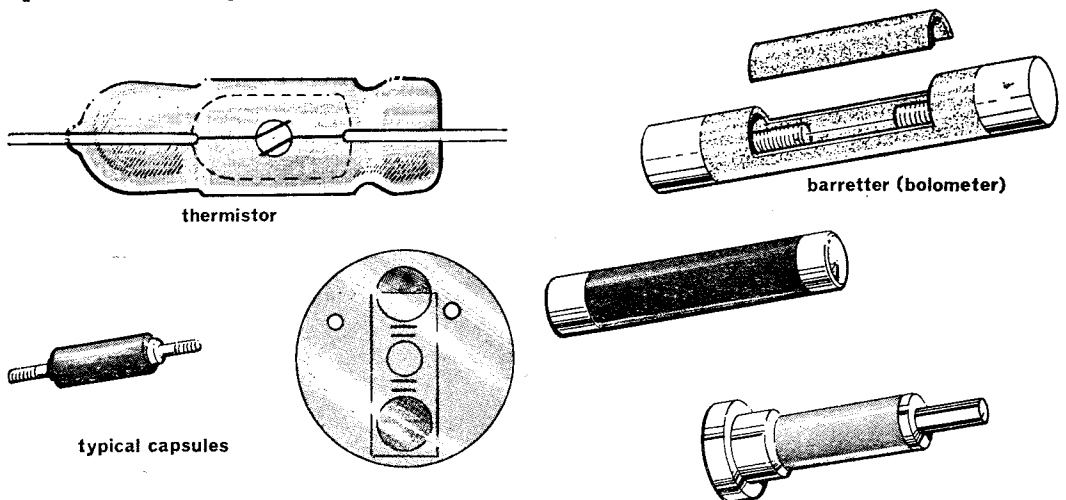

Fig. 10. Thermal elements
18. **Thermal elements.** The two thermal elements in common use are the thermistor and the bolometer (see figure 10), both of which depend on the change in resistance of the element with temperature. Some test instruments also make use of specially designed thin-film thermocouple elements mounted directly in a waveguide section to measure either average or peak pulsed powers, depending on the instrument circuit arrangement.